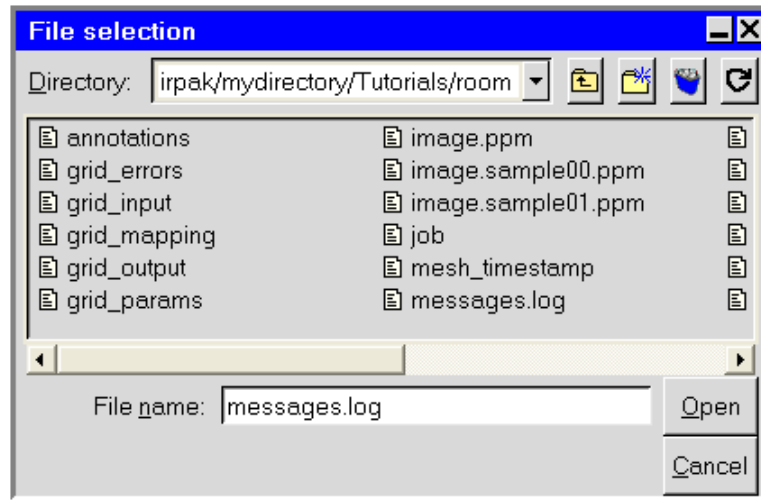
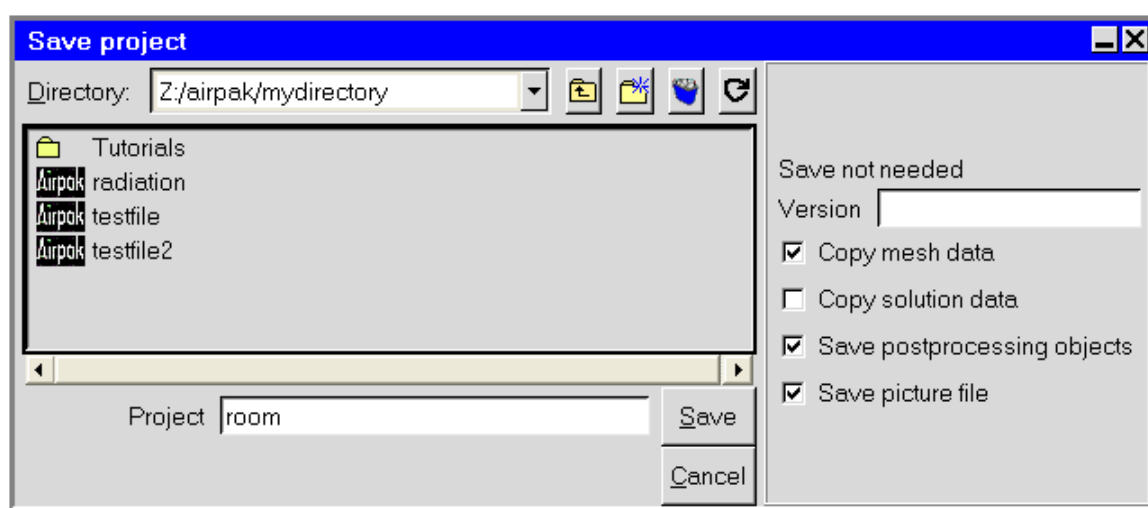
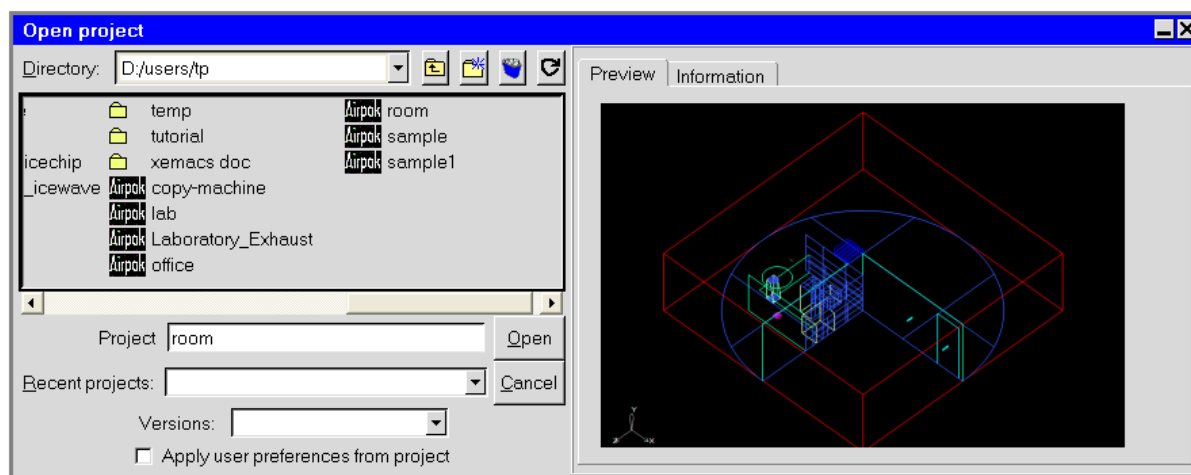
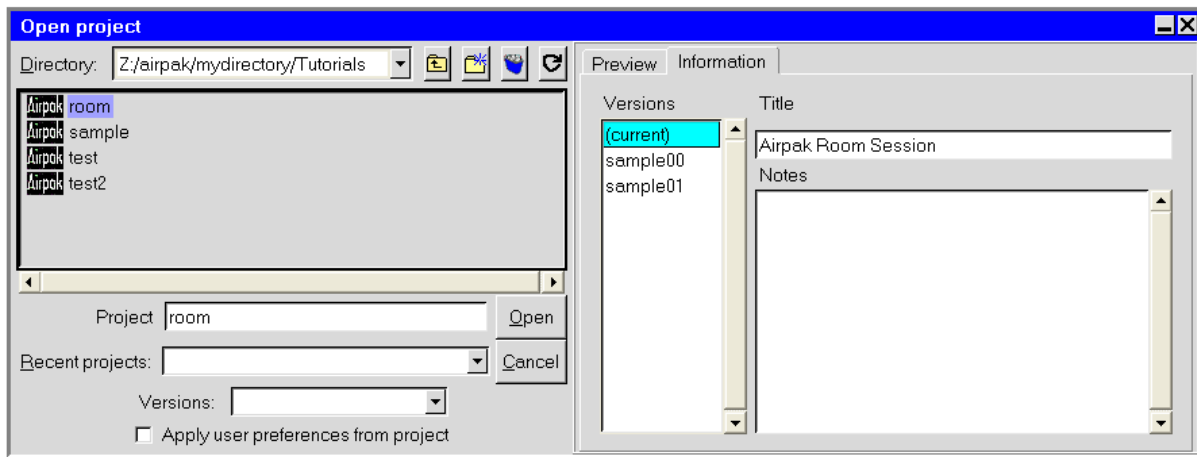

Figure 2.1.32: The File selection Dialog Box
Figure 2.1.33: The Save project Panel Showing the File Selection Dialog
Figure 2.1.34: The Open project Panel Showing the File Selection Dialog and the Preview Tab
Figure 2.1.35: The **Open project** Panel Showing the File Selection Dialog and the Information Tab
Note that the appearance of the file selection dialog box will not always be the same. The version shown in Figure 2.1.32 will appear in many cases. If you are saving a project, the version shown in Figure 2.1.33 will appear. If you are opening a project, merging two projects, or loading an external assembly, a version similar to that shown in Figures 2.1.34 and 2.1.35 will appear.
5. (project files only) Select the version of the job file in the **Versions** drop-down list (e.g., in the **Open project** panel shown in Figure 2.1.34). This list displays the available versions for the project file selected. The version listing is also available in the **Information** tab of some file selection dialogs. For example, if you run a project with a project ID of **job01**, **Airpak** will save a model file called **job01.model1**. If, for example, you then change the material properties specified for a block in your model, and give this project an ID of **job02**, **Airpak** will save a model file called **job02.model1**. These files are all saved in the same directory. When you select the directory in the **Directory** list, all the different versions of the project in that directory will be displayed in the **Versions** drop-down list.
7. (project files only) **Title**, **Versions**, and **Notes** fields will appear in the **Information** tab of some of the file selection dialogs (e.g., Figure 2.1.35). In addition, the **Preview** tab (e.g., Figure 2.1.34) may contain a picture of the model if a picture has been saved. These items are described below.
8. In some of the file selection dialogs there are other options that you can select, for example, on the right-hand side of the **Save project** panel (Figure 2.1.33). These options are described in the section related to the use of that particular panel, for example, the options in the **Save project** panel are described in Section 3.4.